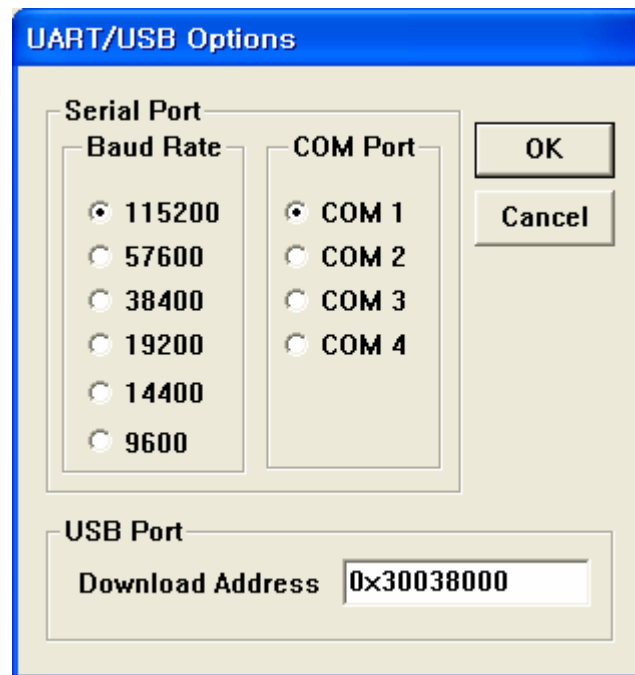

Figure 6-7 UART/USB Options
7. On the **Configuration** menu, click **Options** to set the UART/USB options. The following window appears on your screen. Select Baud Rate and COM Port as shown in figure 6-7, enter the download address as **0x30038000** and then click **OK** button.